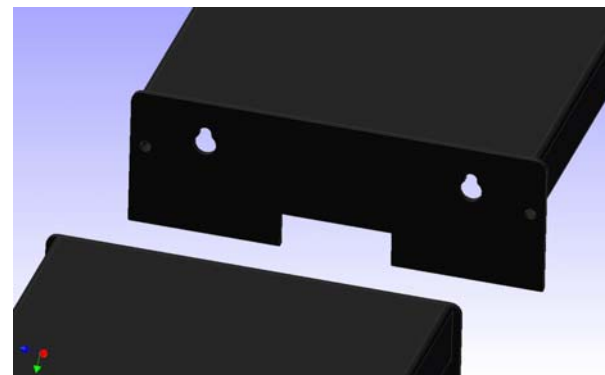

Figure 37
3. Now repeat step 2 for the other side of the PIT BOSS. Next locate the two tread ways with wheel stops and place them at the lift cylinder end. Opposite the wheel stops are keyholes in the tread ways. Line the keyholes up with the exposed bolts on the mating tread way and insert them (see Figure 37).